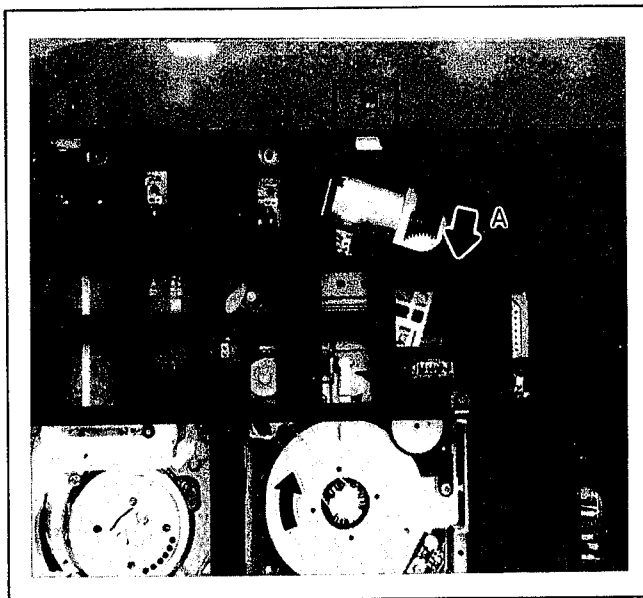

Fig. S7
- 2) Turn the Worm Gear to "A" arrow mark direction manually as shown in Fig.S7, moving the Loading Post to the unloaded position.